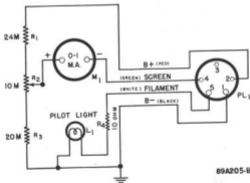

Figure 7. Tuning meter SM-40 and schematic wiring diagram.
- (1) See that the tubes are securely seated in their sockets. Refer to Figure 7 for the proper location of each tube.
- (2) Check the pilot lamps located behind the dial escutcheons and see that they are securely in place.
- (3) Check all external connections. See that they are secure and make positive contact. Remember that an improvised installation gives improvised results.
REPLACING TUBES AND DIAL LAMPS.—When replacing tubes, check the tube type carefully and replace with the correct type. Refer to the top of the receiver chassis, Fig. 7, to determine the location of each tube. The receiver employs two dial lamps with bayonet type sockets to illuminate the two dial scales. Replace these with similar types, 6/8 volt, 250 ma., "blue head" G.E. #47 or equivalent. The color code referred to is the color of the glass bead above the glass stem inside the envelope of the lamp.